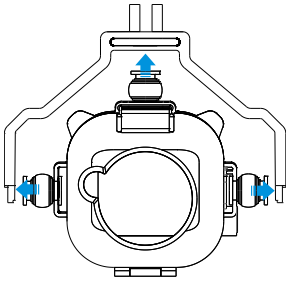

Fig.1
1. (Fig.1) Attach vibration absorption.